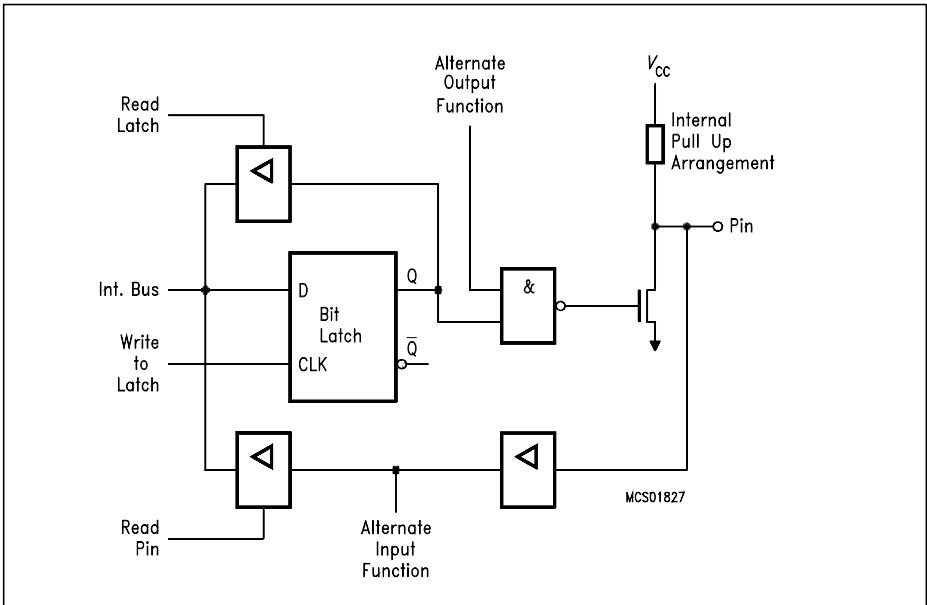

Figure 6-5
Figure 6-5 shows a functional diagram of a port latch with alternate function. To pass the alternate function to the output pin and vice versa, however, the gate between the latch and driver circuit must be open. Thus, to use the alternate input or output functions, the corresponding bit latch in the port SFR has to contain a one (1); otherwise the pull-down FET is on and the port pin is stuck at 0. After reset all port latches contain ones (1).